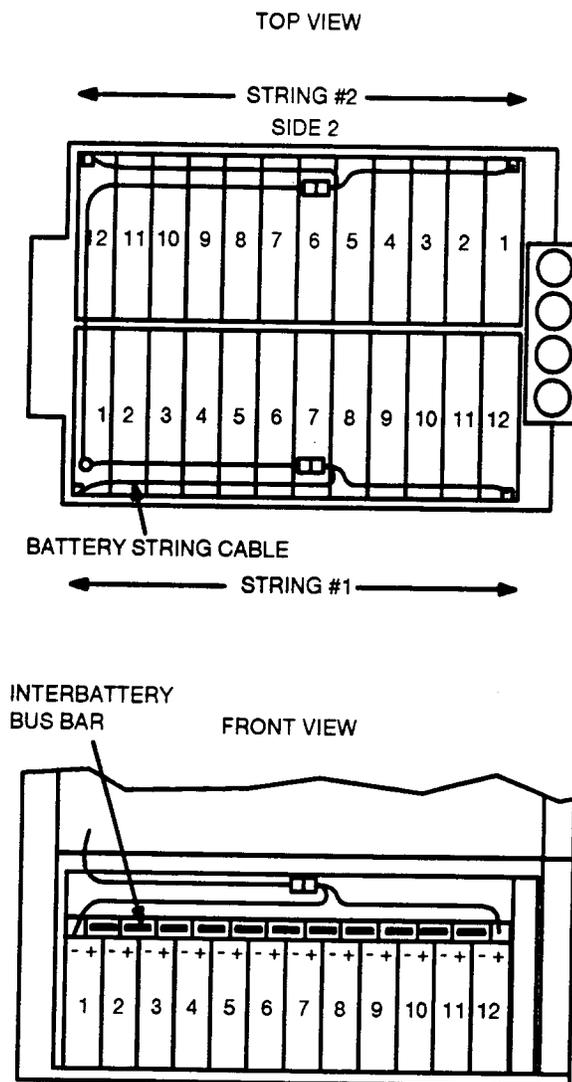

Figure 1 — Layout of Lineage 2000 VR Series Batteries in 80A Cabinet
8. Place all 12 batteries in the battery compartment as shown in Figure 1.